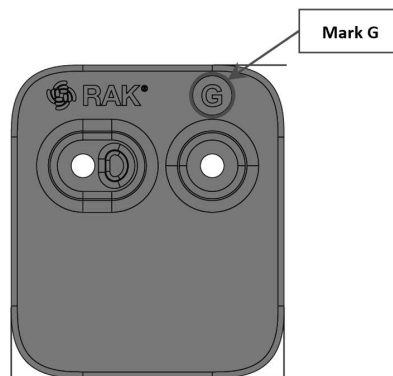

Figure 30: Mount accessory marked with the letter G
1. For magnet mount, use one (1) up to six (6) pieces of mount accessories with an indicator marked with the letter **G** as shown in **Figure 30**.